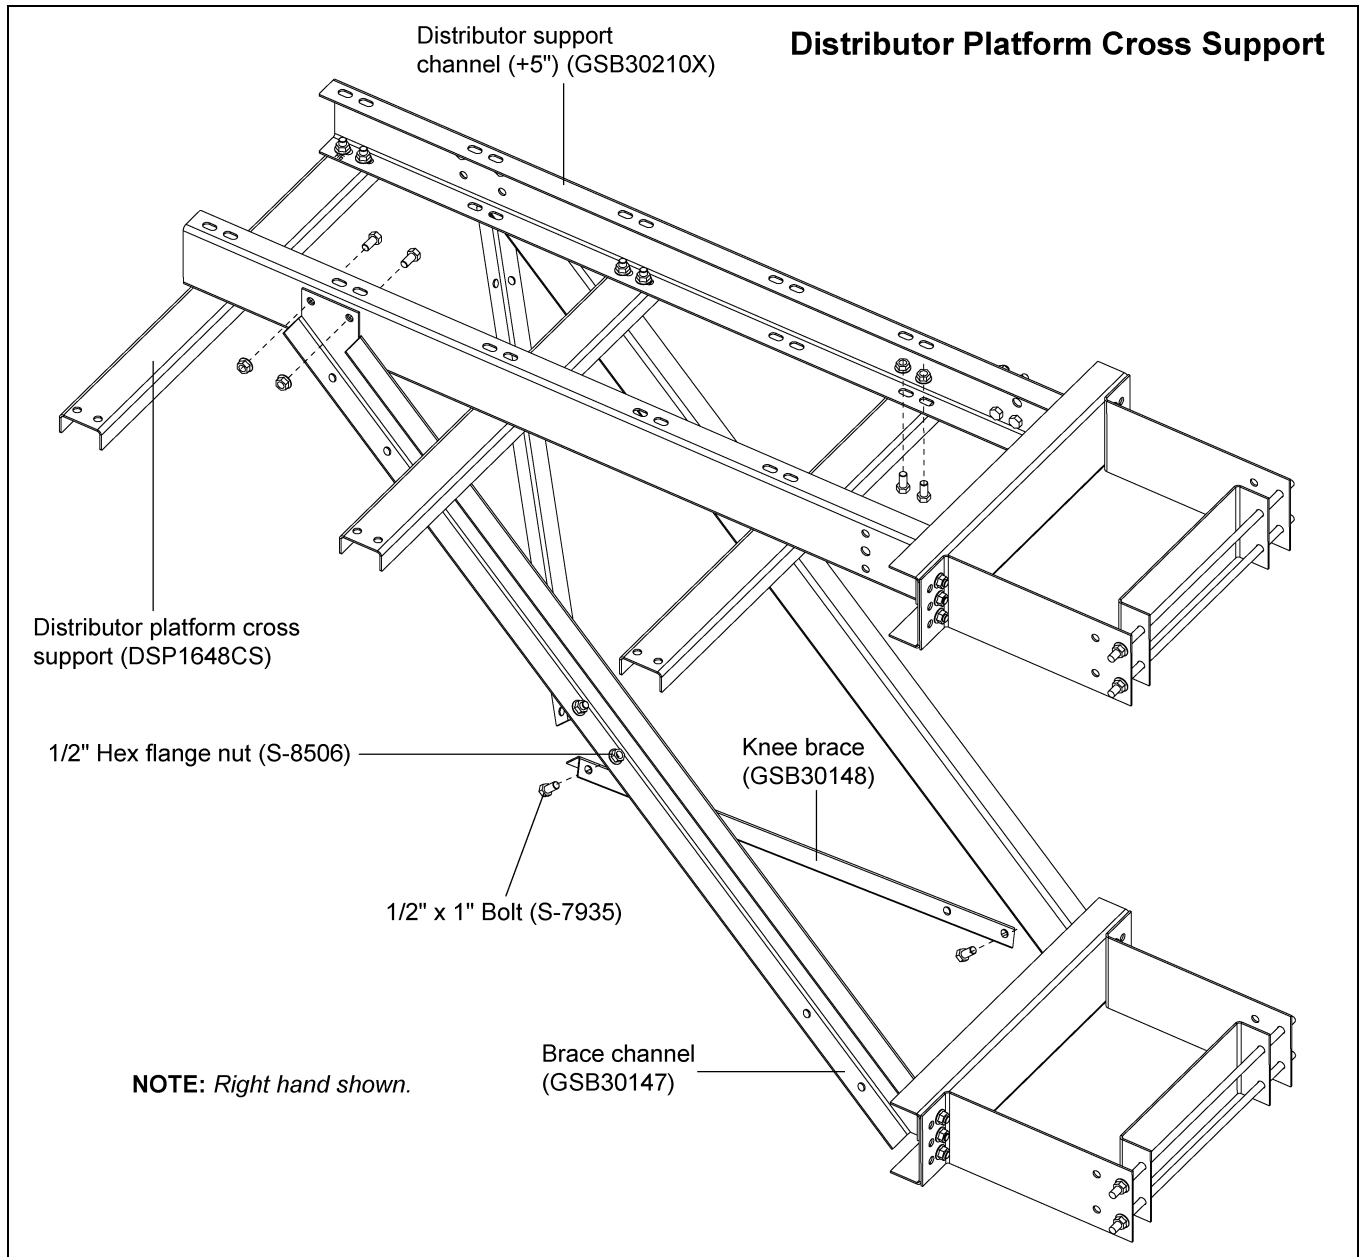

Figure 12B Distributor Platform Cross Support
1. Attach brace channels to the sides of the support channels using four (4) 1/2" x 1" bolts and nuts. Angle the knee braces across the bottom sides of the brace channels and attach using four (4) 1/2" x 1" bolts and nuts.
2. Assemble the cross supports to the bottom side of the support channels using the end and middle sets of holes on the support channels using four (4) 1/2" x 1" bolts and nuts. *(See Figure 12B.)*